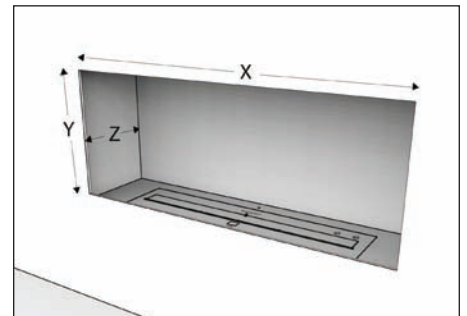

Fig. 1
A. FIREBOX MEASUREMENTS FOR "WITHIN A FIREBOX" INSTALLATION (Fig. 1)